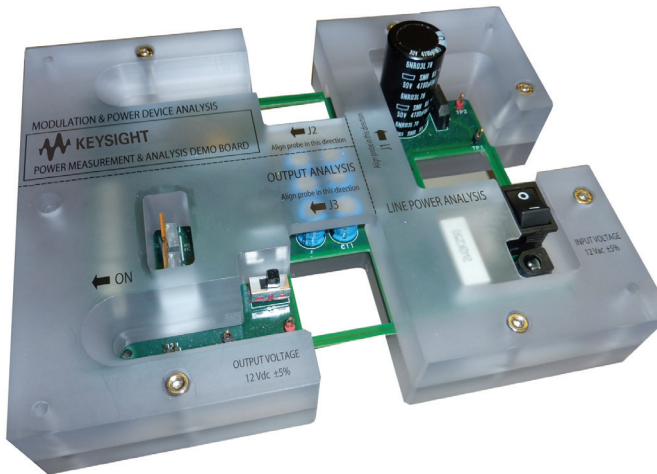

Figure 1. The Keysight Technologies, Inc. switch mode power supply measurements training kit.
- Your switch mode power supply (SMPS) or Keysight's SMPS measurements training kit (Figure 1)